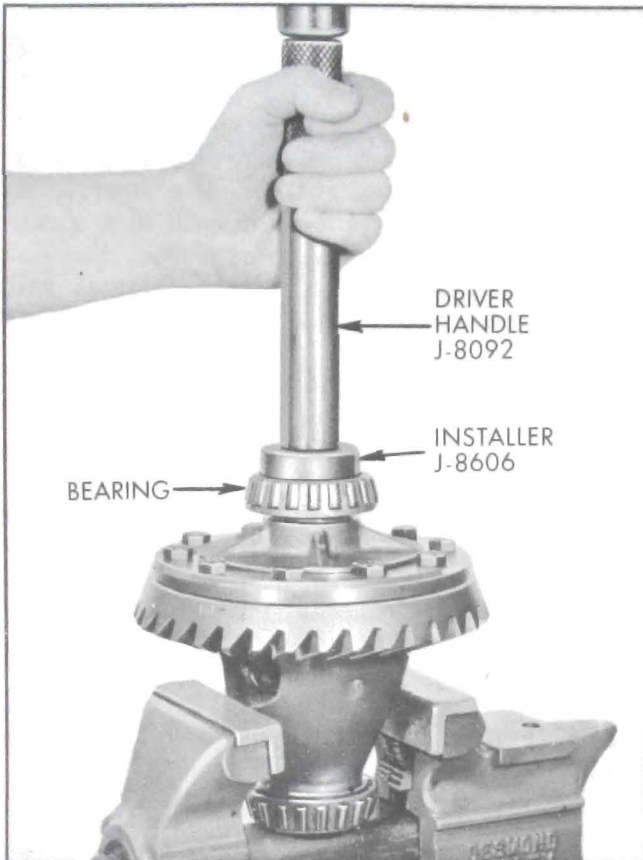

Figure 6-18—Installing Differential Side Bearing
7. If differential side bearings were removed, install new bearings using Installer J-8606 with Driver Handle J-8092. See Figure 6-18.